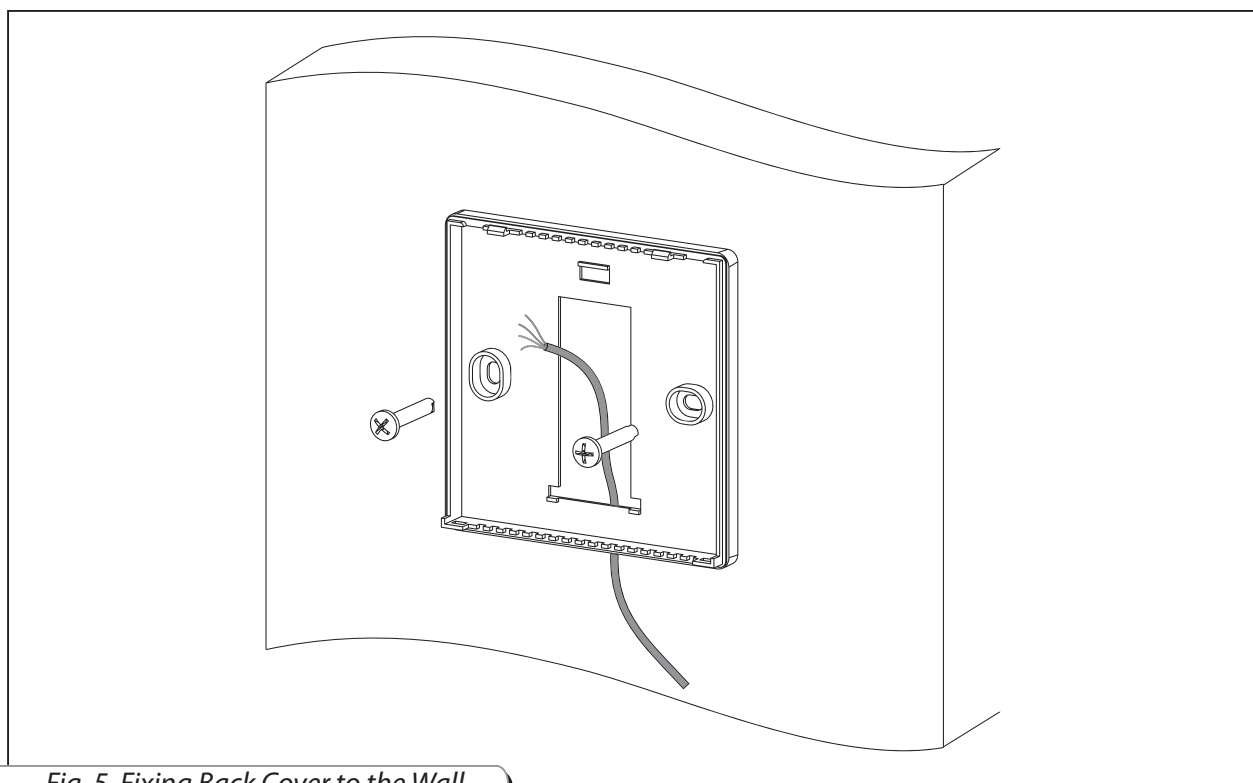

Fig. 5. Fixing Back Cover to the Wall
- Secure the panel back cover to the wall (Fig. 5).